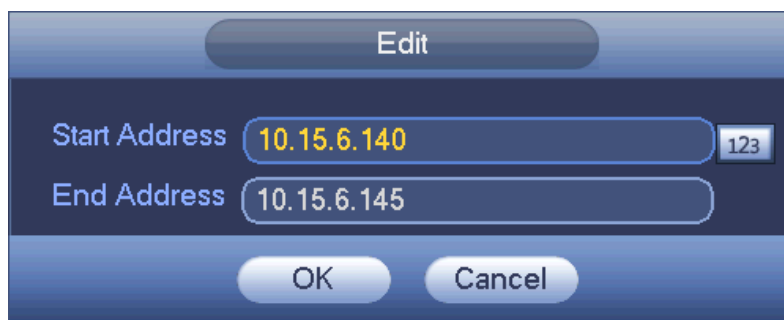

Figure 4-95
- Edit: Click it to edit start address and end address. See Figure 4-95. System can check the IP address validity after the edit operation and implement IPv6 optimization.